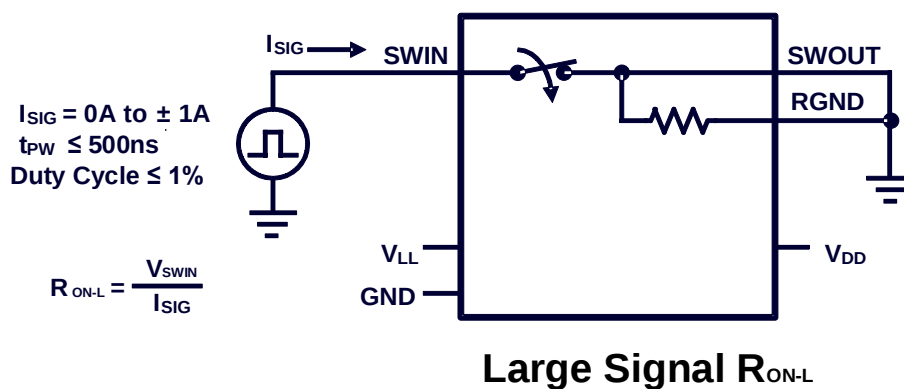

Figure 3: Test Circuit 2
| Large signal on resistance (6) | $R_{ON-L}$   | $I_{SIG} = \pm 1A$ , $t_{PW} \leq 500ns$ ,duty cycle $\leq 1\%$ ,$SWOUT = 0V$ ,see Figure 3 on page 12 |                     |                     |                     | 13      |                     |                     |                     | $\Omega$   |